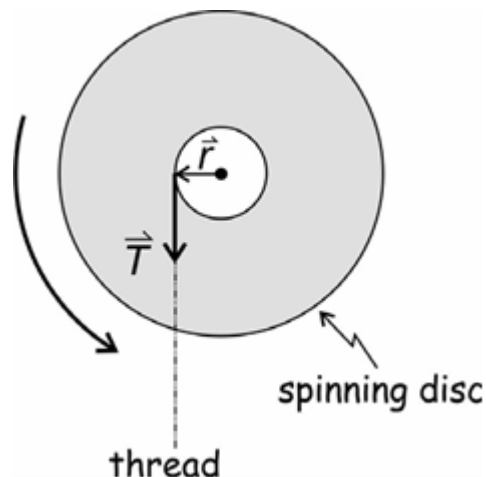

Figure 5: The applied torque on the disk
5. Drape the thread over the black pulley and raise or lower the pulley in the clamp so that the thread runs parallel to the top surface of the disc. Change the angle of the black pulley so that it is parallel to the thread and not at an angle to it - see **figure 5**.